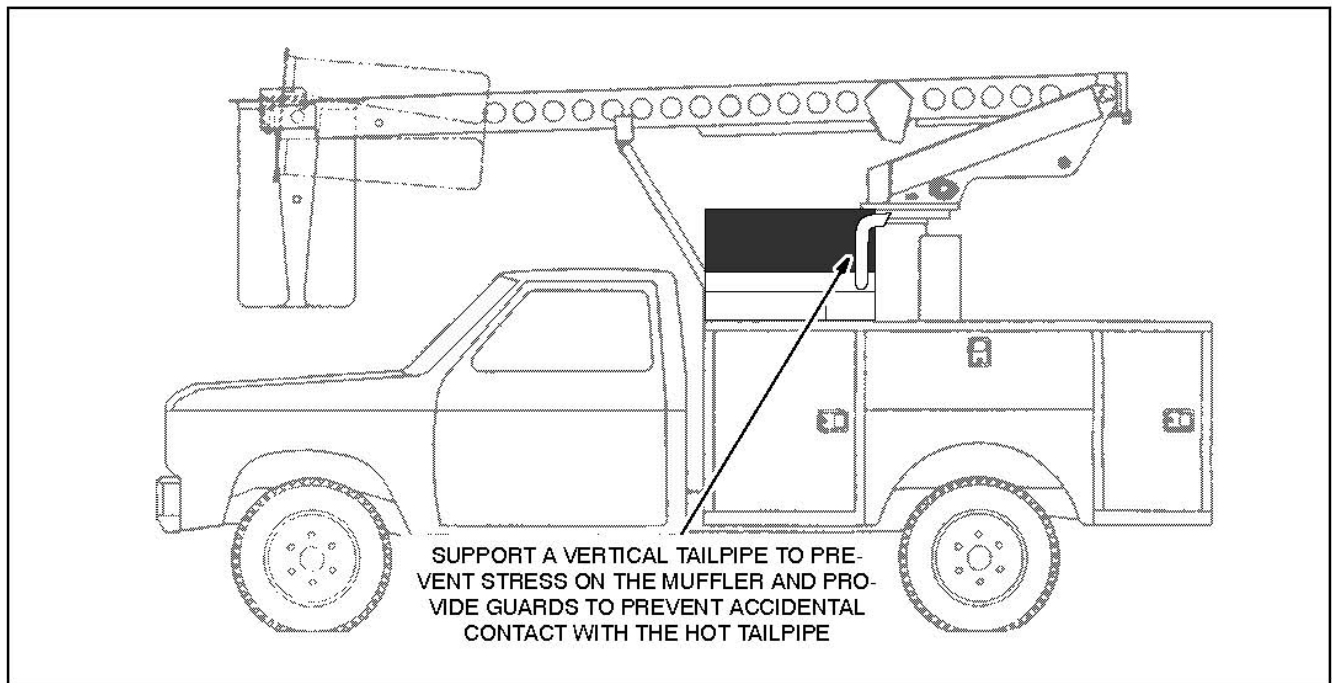

FIGURE 12. VERTICAL TAILPIPE
12. To keep rain out, terminate a vertical tail pipe (Figure 12) with a rain cap or bend that points towards the rear of the vehicle. Provide guards as necessary to prevent accidental contact with the hot tailpipe during normal use of the vehicle.